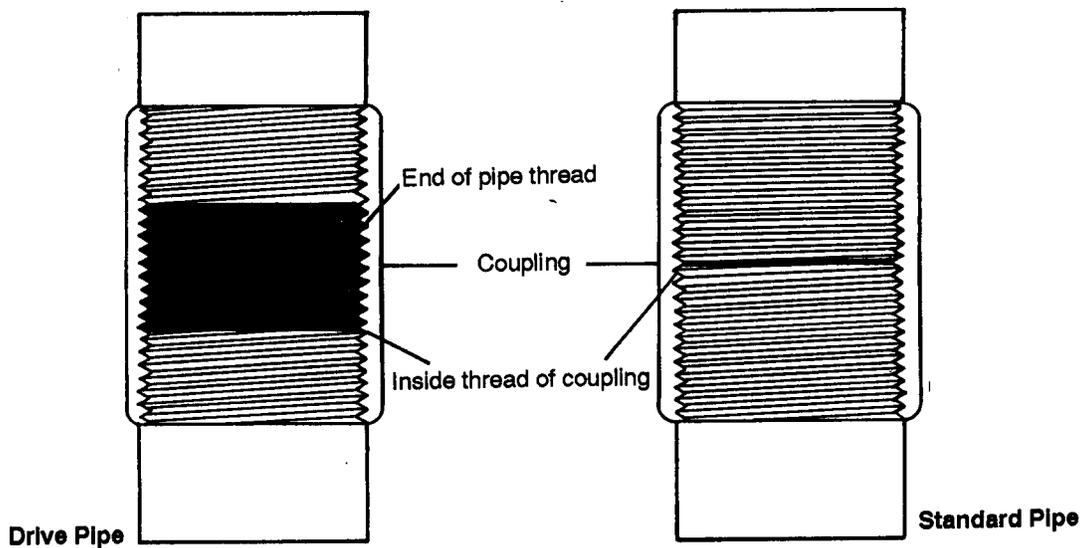

Figure 9-8. Butt joint
(2) Drive Pipe. Standard drive pipe is furnished in 6- and 8-inch sizes, with the dimensions as shown in Table 9-1 (page 9-8). The two ends of the pipe should meet in the center of the coupling, making a butt joint (Figure 9-8, page 9-9). Drive pipe threads are not interchangeable with standard pipe threads.